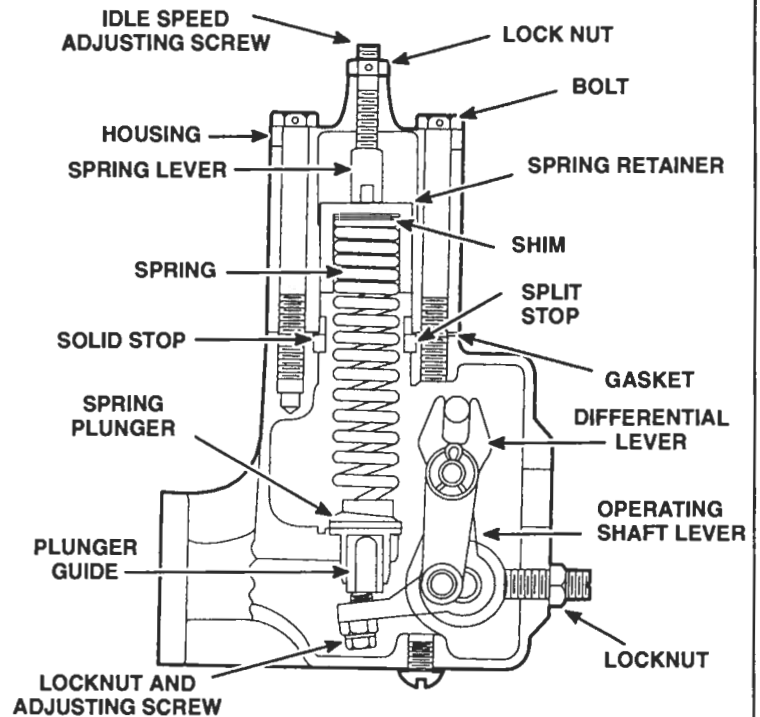

Figure 5. Location of Stops and Shims
3. Refer to Table 1 and determine the stop or shim required for the desired full-load speed for engines with two valve cylinder heads. A split stop can only be used with a solid stop (Figure 5.)